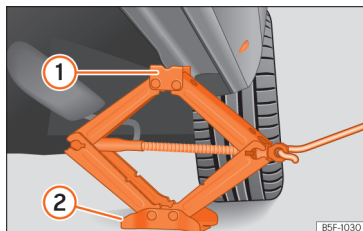

Fig. 243 Crossbar: mounting the jack on the vehicle.
- Turn the jack crank handle, located below the strut support point, to raise it until the tab ① »» Fig. 243 is below the housing that is provided.
- Align the jack so that the tab ① "grips" onto the housing provided on the cross member and the mobile base ② is resting on the ground. The base plate ② should fall vertically with respect to the support point ①.